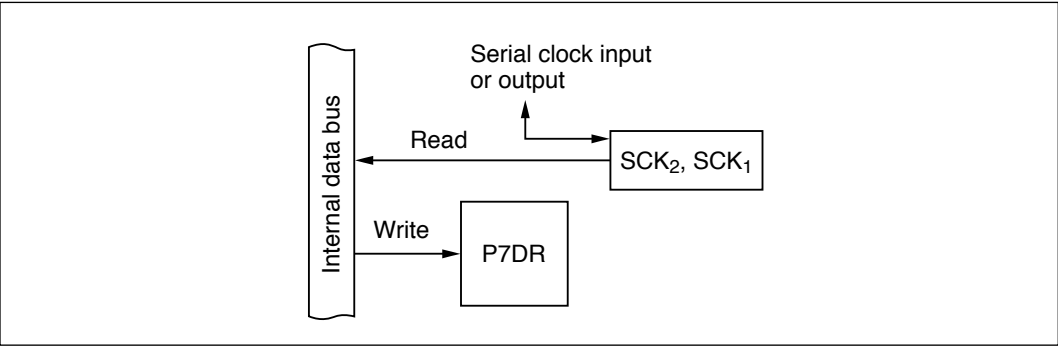

Figure 9-50 SCK₂ and SCK₁ Pins (Modes 1 to 7)
(7) SCK₂ and SCK₁ Pins (P7₇ and P7₆: Modes 1 to 7): Figure 9-50 shows a block diagram illustrating the SCK₂ and SCK₁ input/output function. Table 9-40 indicates register read/write data. When P7₇ and P7₆ are used for SCK₂ and SCK₁ input or output, the value written in P7DR is ignored, but P7DR can be read to monitor the levels at the SCK₂ and SCK₁ pins.